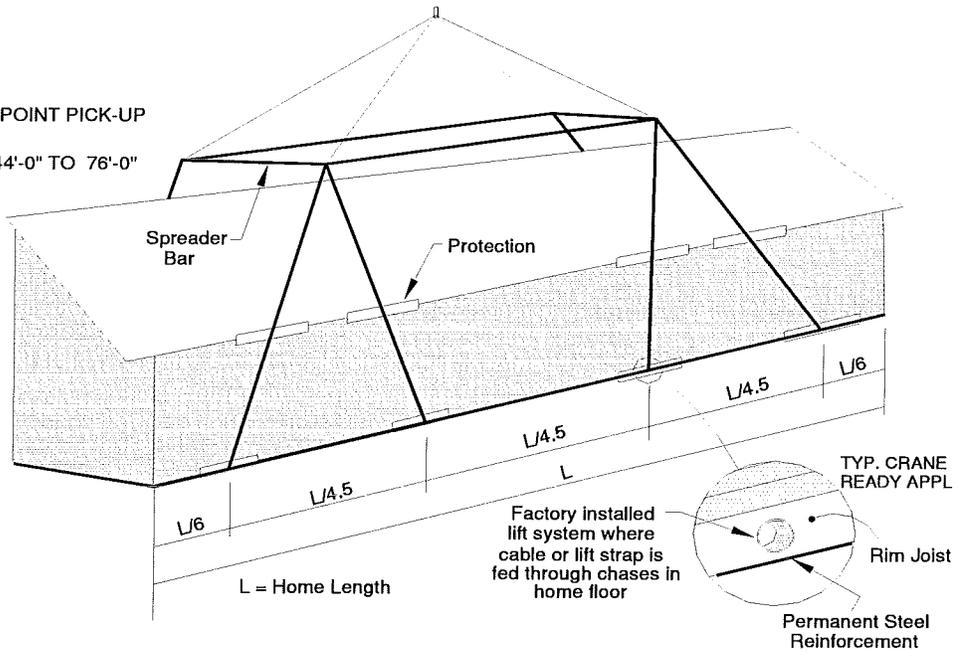

Figure 8 - 4 Point Pick-up
1. Removal of small sections of sill plate may facilitate removal of straps or lifting cables as each home is set. Location and number of cuts will depend on position and number of straps used in lifting the home sections. Reinstall sill plate after straps are free. (If perimeter joists are drilled for cables as described in Figure 8, removal of plate sections is not applicable.)